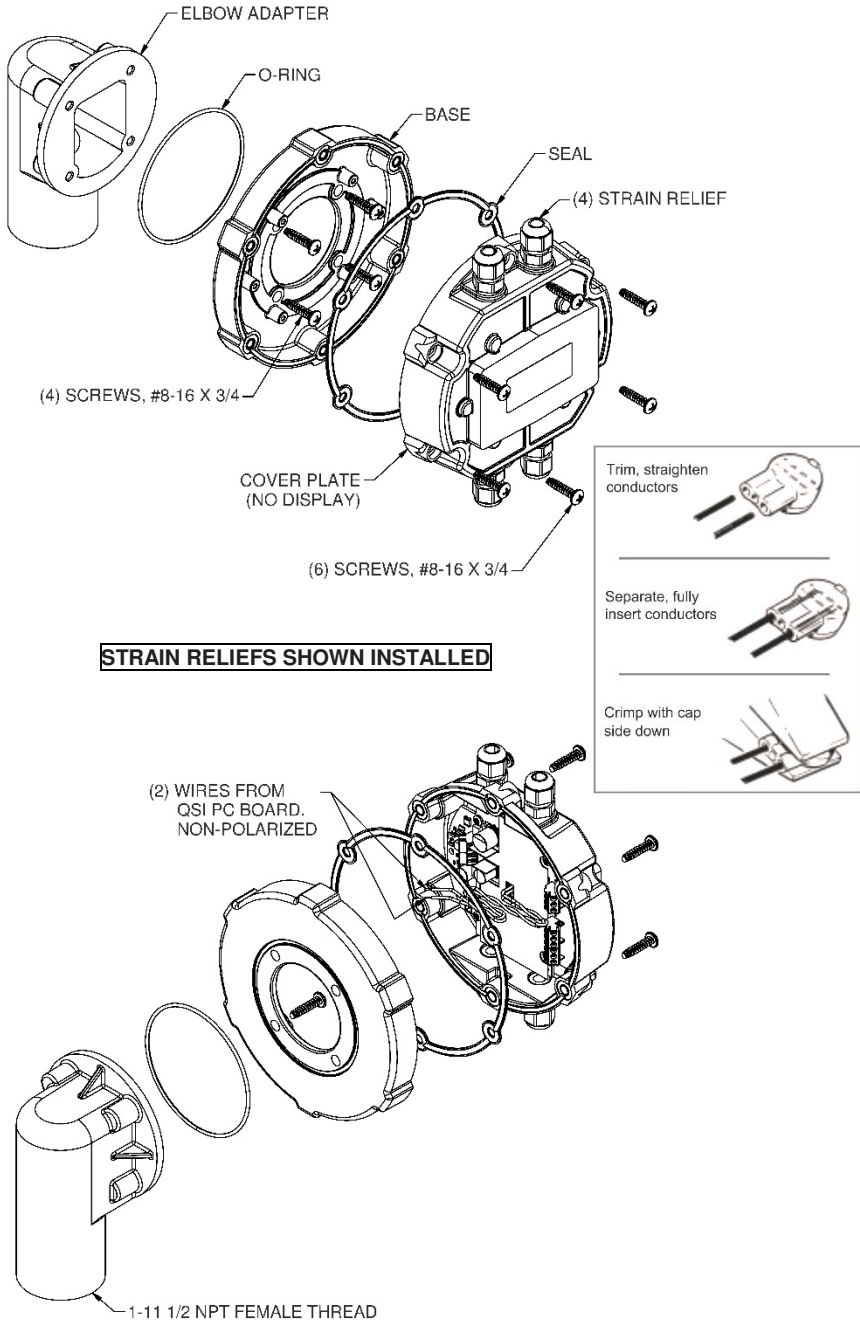
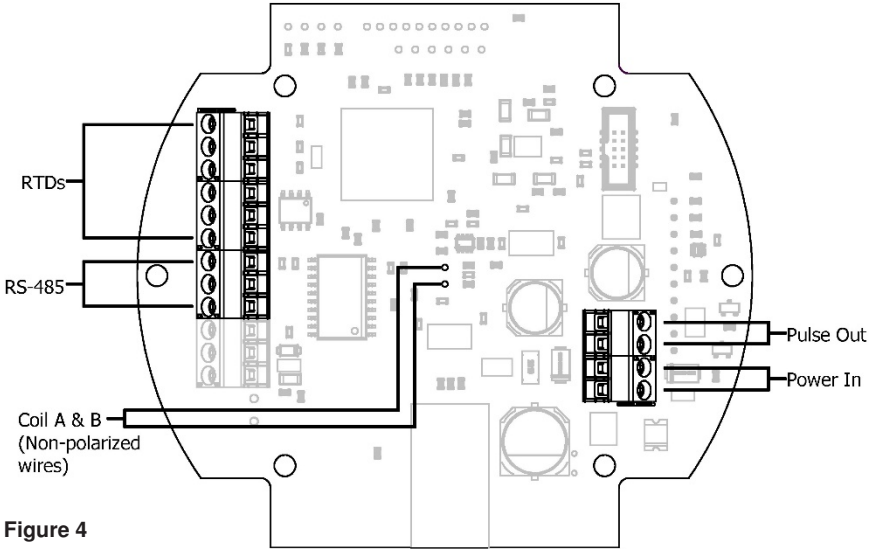

Figure 2
Figure 4
3. Remove the (6) #8-16 x 3/4 in. screws attaching the module cover plate to the base and separate. Do not damage the seal between the two components (see Figure 2).
6. Route the (2) wires from the meter sensor through the elbow adapter and out the face of the base. Snip ends to remove stripped wire. Connect either of the meter sensor wires to either wire from the QSI PC board using the enclosed butt-splice connectors (see Figure 2). Crimp connector to splice wires together and release insulation gel. Repeat with the remaining sensor and PC board wire (see Figure 4, 6, or 8 depending on your QSI version). (Make sure the power is disconnected from external cables before beginning this step): Route external cables through the strain relief(s), and then tighten the dome nut securely around the cable to provide an environmental seal.
9. Connect cable wires to the QSI PC board screw terminals (see Figure 4, 6, or 8 depending on your QSI version).
10. Mount the cover plate on the base making sure the seal is seated properly between them. Replace the (6) previously removed screws to secure the cover plate to the base. Tighten screws.